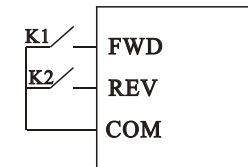

Fig. 6-10 Two-wire Control 1/2 Wiring Diagram
- 0: Two-wire control mode 1, as shown in Table 6-3 and Fig. 6-10.
- 1: Two-wire control mode 2, as shown in Table 6-3 and Fig. 6-10.